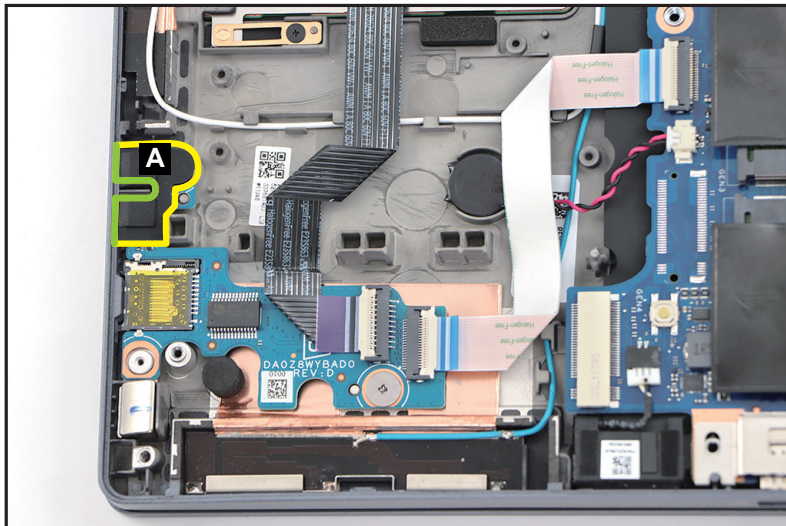

Figure 1-53. Card Reader Board Removal
1. Detach the rubber (A) from the card reader board (Figure 1-53).